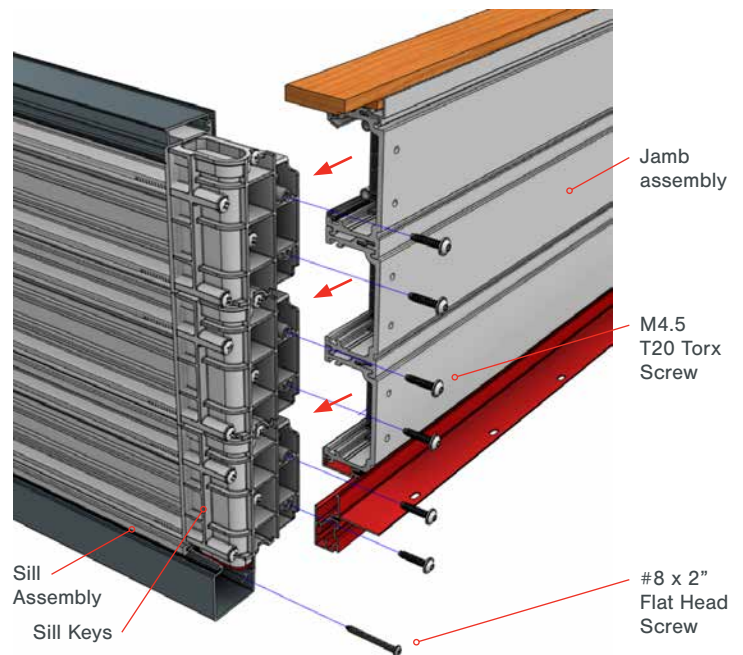

Fig 16
- Rotate the Sill and one of the Jambs to rest on their exterior faces (Fig 16.)
- Fasten the Frame Cladding to the Sill Nosing using the #6 x 1 1/2" Panhead screw provided (Fig 16.)